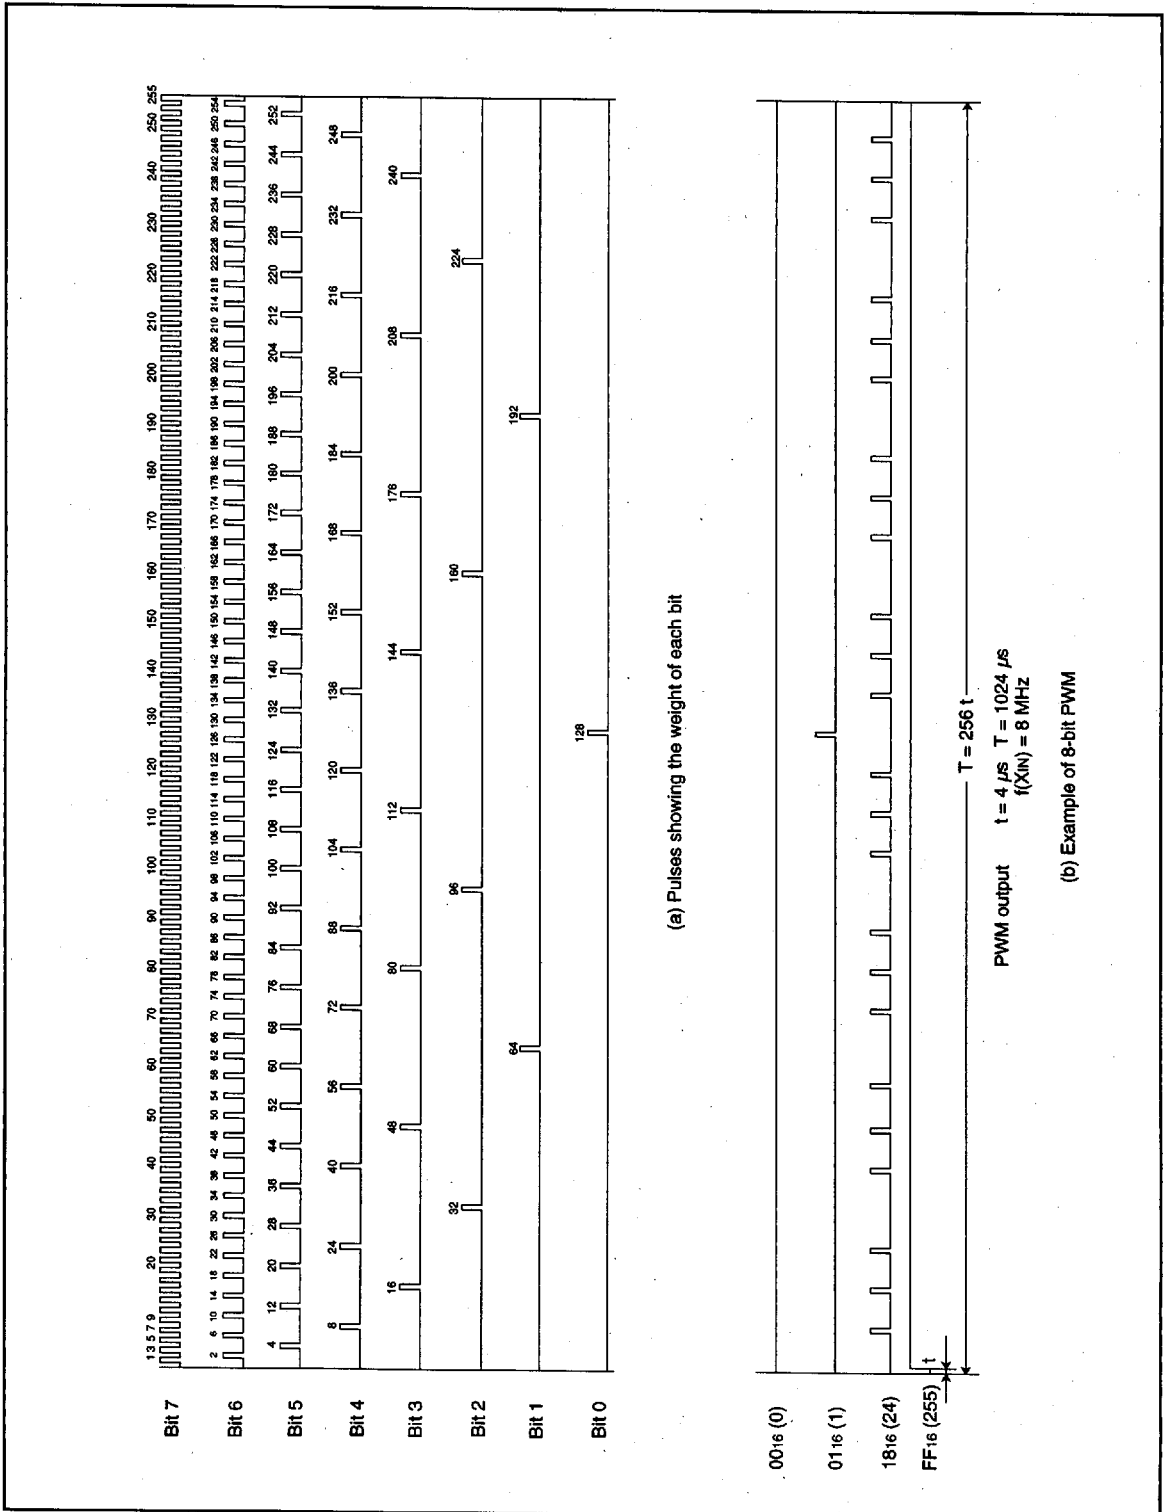

Fig. 13. 8-bit PWM timing
Figure 13 shows the 8-bit PWM timing. One cycle ( $T$ ) is composed of 256 ( $2^8$ ) segments. The 8 kinds of pulses relative to the weight of each bit (bits 0 to 7) are output inside the circuit during 1 cycle. Refer to Figure 13 (a). The 8-bit PWM outputs waveform which is the logical sum (OR) of pulses corresponding to the contents of bits 0 to 7 of the 8-bit PWM register. Several examples are shown in Figure 13 (b). 256 kinds of output ("H" level area: 0/256 to 255/256) are selected by changing the contents of the PWM register. A length of entirely "H" output cannot be output, i.e. 256/256.